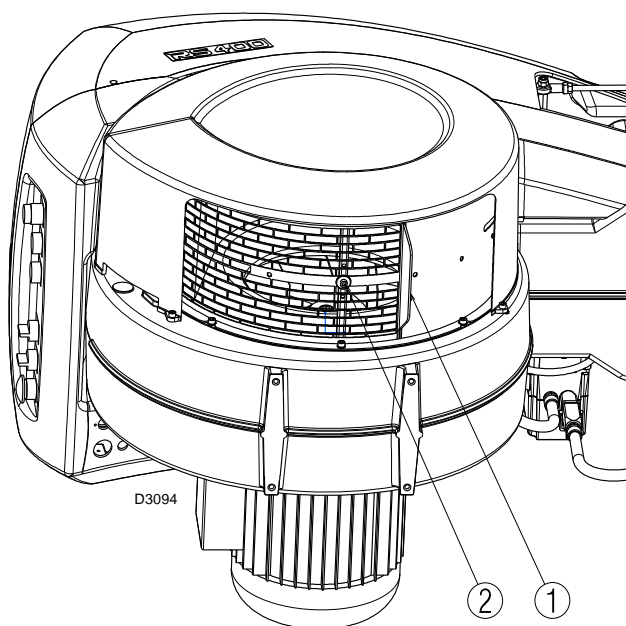

Fig. 26
- Loosen the screw 2 (Fig. 26) placed under the burner suction line and close progressively the grid 1) until the required output is reached.